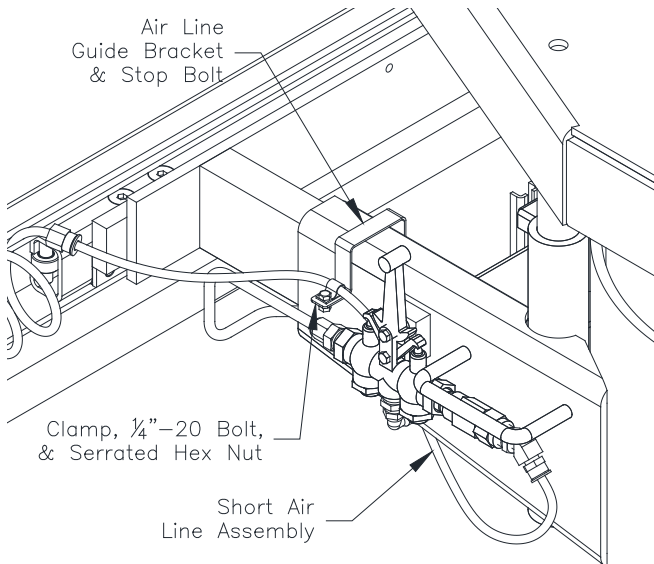

Figure 15
20. Attach Short Air Line Assembly to spiral flex air line closest to the Jack air connection point. Connect male end to fitting on Jack as shown in **Fig 15**.